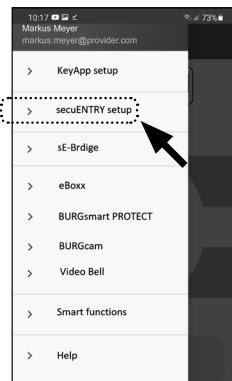

Fig. 88
- ② Tap on the menu item "secuENTRY setup" (Fig. 88).